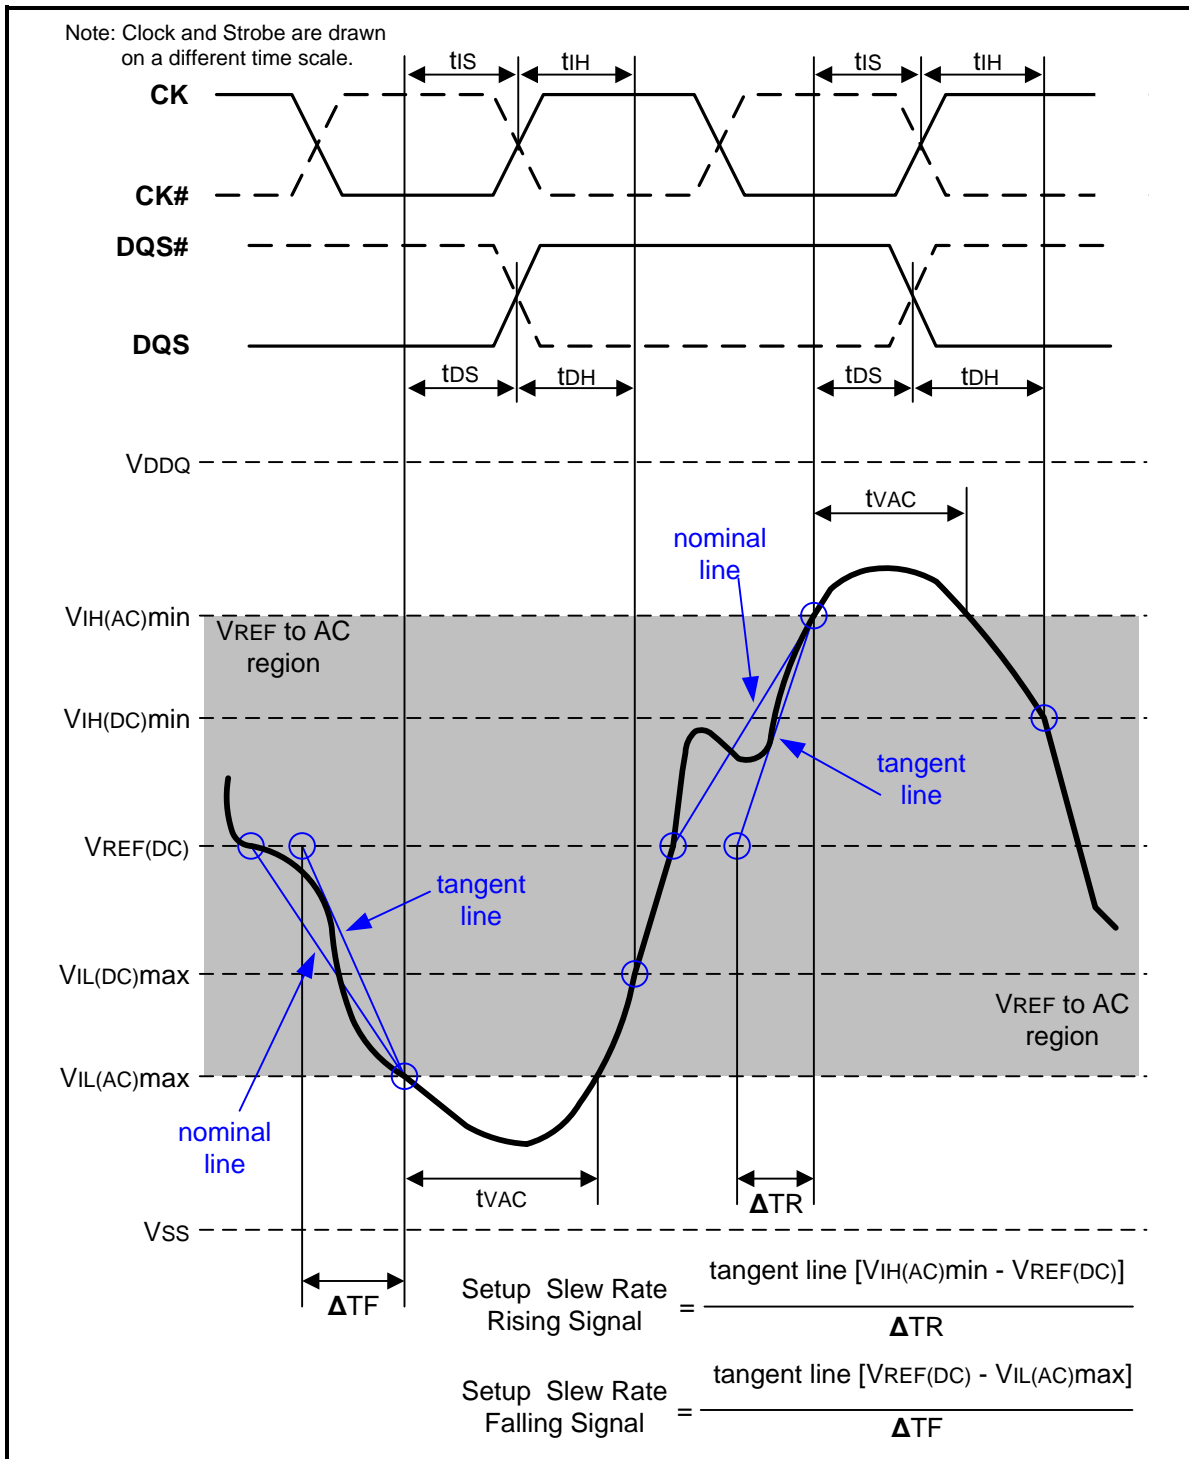

Figure 109 – Illustration of tangent line for setup time tDS (for DQ with respect to strobe) and tIS (for ADD/CMD with respect to clock)
Setup ( $t_{IS}$ ) nominal slew rate for a rising signal is defined as the slew rate between the last crossing of  $V_{REF(DC)}$  and the first crossing of  $V_{IH(AC)min}$ . Setup ( $t_{IS}$ ) nominal slew rate for a falling signal is defined as the slew rate between the last crossing of  $V_{REF(DC)}$  and the first crossing of  $V_{IL(AC)max}$ . If the actual signal is always earlier than the nominal slew rate line between shaded 'VREF(DC) to AC region', use nominal slew rate for derating value (see Figure 107). If the actual signal is later than the nominal slew rate line anywhere between shaded 'VREF(DC) to AC region', the slew rate of a tangent line to the actual signal from the AC level to  $V_{REF(DC)}$  level is used for derating value (see Figure 109).
Setup (tDS) nominal slew rate for a rising signal is defined as the slew rate between the last crossing of VREF(DC) and the first crossing of VIH(AC)min. Setup (tDS) nominal slew rate for a falling signal is defined as the slew rate between the last crossing of VREF(DC) and the first crossing of VIL(AC)max (see Figure 107). If the actual signal is always earlier than the nominal slew rate line between shaded 'VREF(DC) to AC region', use nominal slew rate for derating value. If the actual signal is later than the nominal slew rate line anywhere between shaded 'VREF(DC) to AC region', the slew rate of a tangent line to the actual signal from the AC level to VREF(DC) level is used for derating value (see Figure 109).